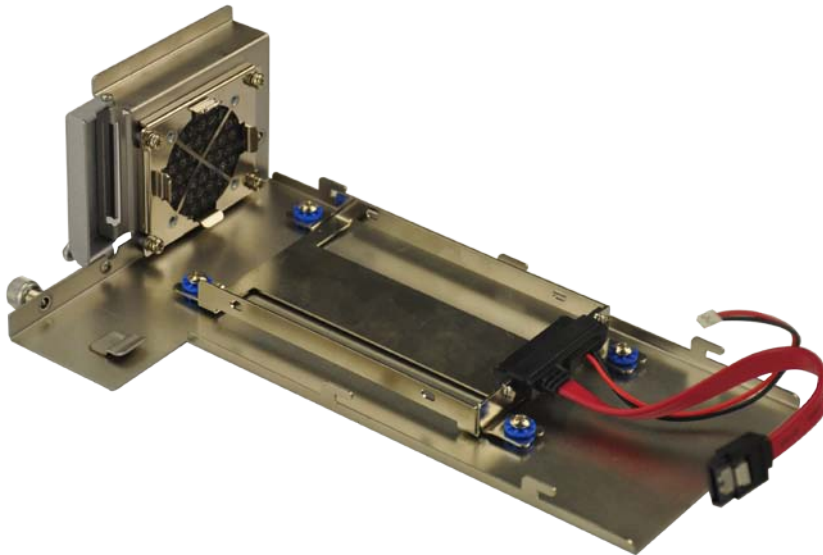

Figure 3-5: Remove the Cover from TANK-801
Step 2: Unplug the SATA signal and power cables connected to the TANK-801, and then put the cover on a flat surface (**Figure 3-5**).
Step 2: Unplug the SATA signal and power cables connected to the TANK-801, and then place the cover on a flat surface (**Figure 3-5**).